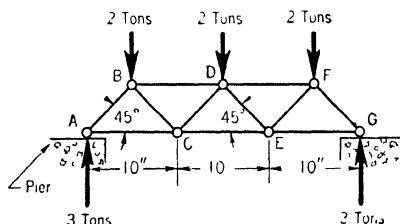

FIG. 389. TRUSS REACTIONS
Suppose we have a bridge truss loaded as shown in Fig. 389. In order to design the members of the truss, we must determine the load on each member, AB , AC , BC , etc. To do this, we consider
1. Using forces as found above and the pin C in Fig. 389, find the forces CD and CE .
2. Using forces as found above, the results of problem 1, and the pin D in Fig. 389, find the forces DF and DE .
3. Using the pin G in Fig. 389, find the forces in FG and EG .
4. Using the pin F in Fig. 389 and the results of problem 3, find the forces in EF and DF .